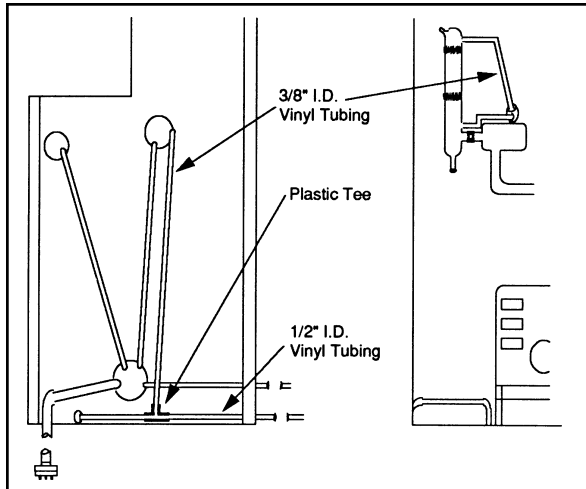

Figure 5
1. Remove boiler fill tubes (V) and (Q) and set aside.
3. Install one end of the vinyl tubing to the top right tubulation on the condenser (B) and route the other end through the cabinet and down the back as shown in Figure 5.